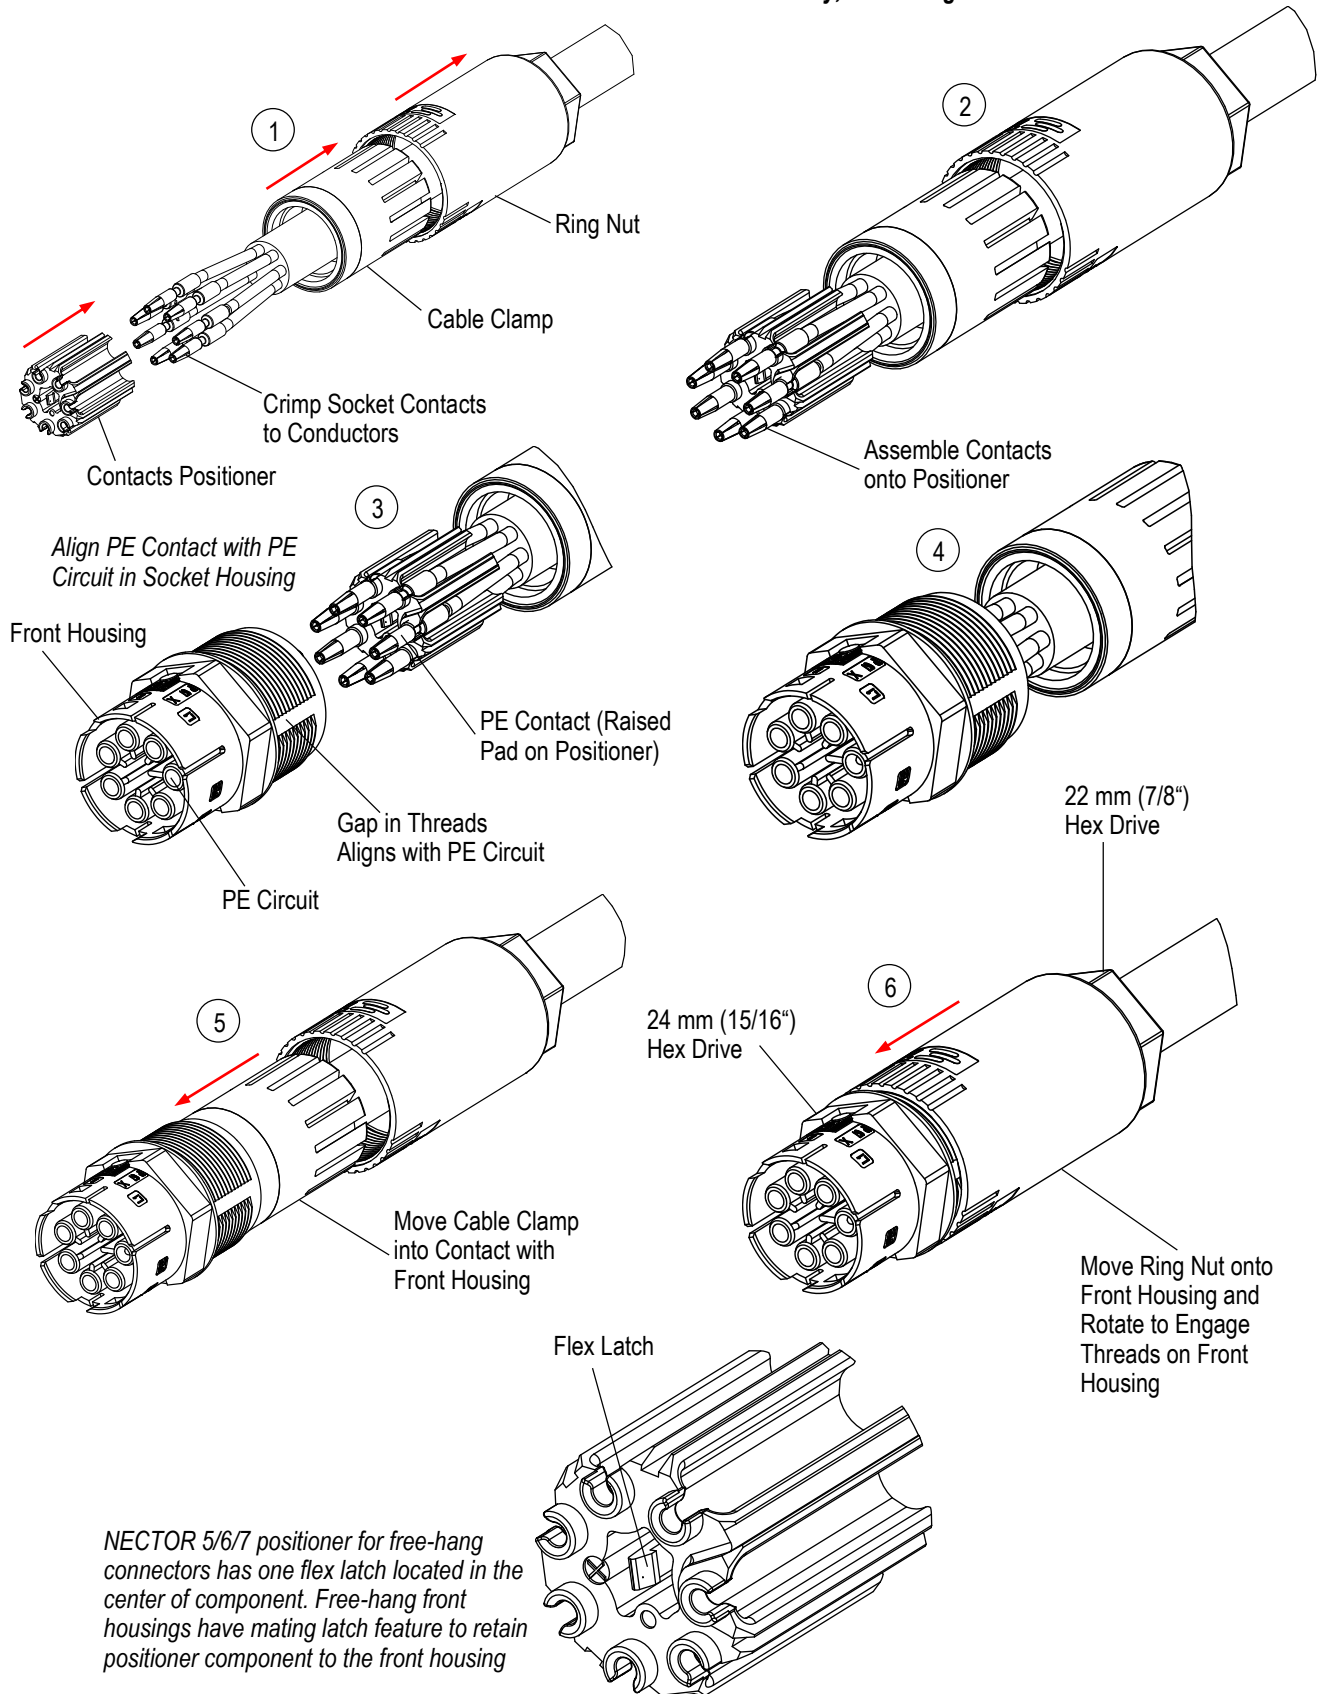

Figure 18
NECTOR M-Line 5/6/7 circuits' free-hang connector assembly using crimp contacts is assembled as follows (see Figures 18 and 19):
4. Place "ring nut" over cable jacket (orient as shown in Figure 18, 19).
5. Place "cable clamp" over cable jacket (orient as shown in Figure 18, 19).